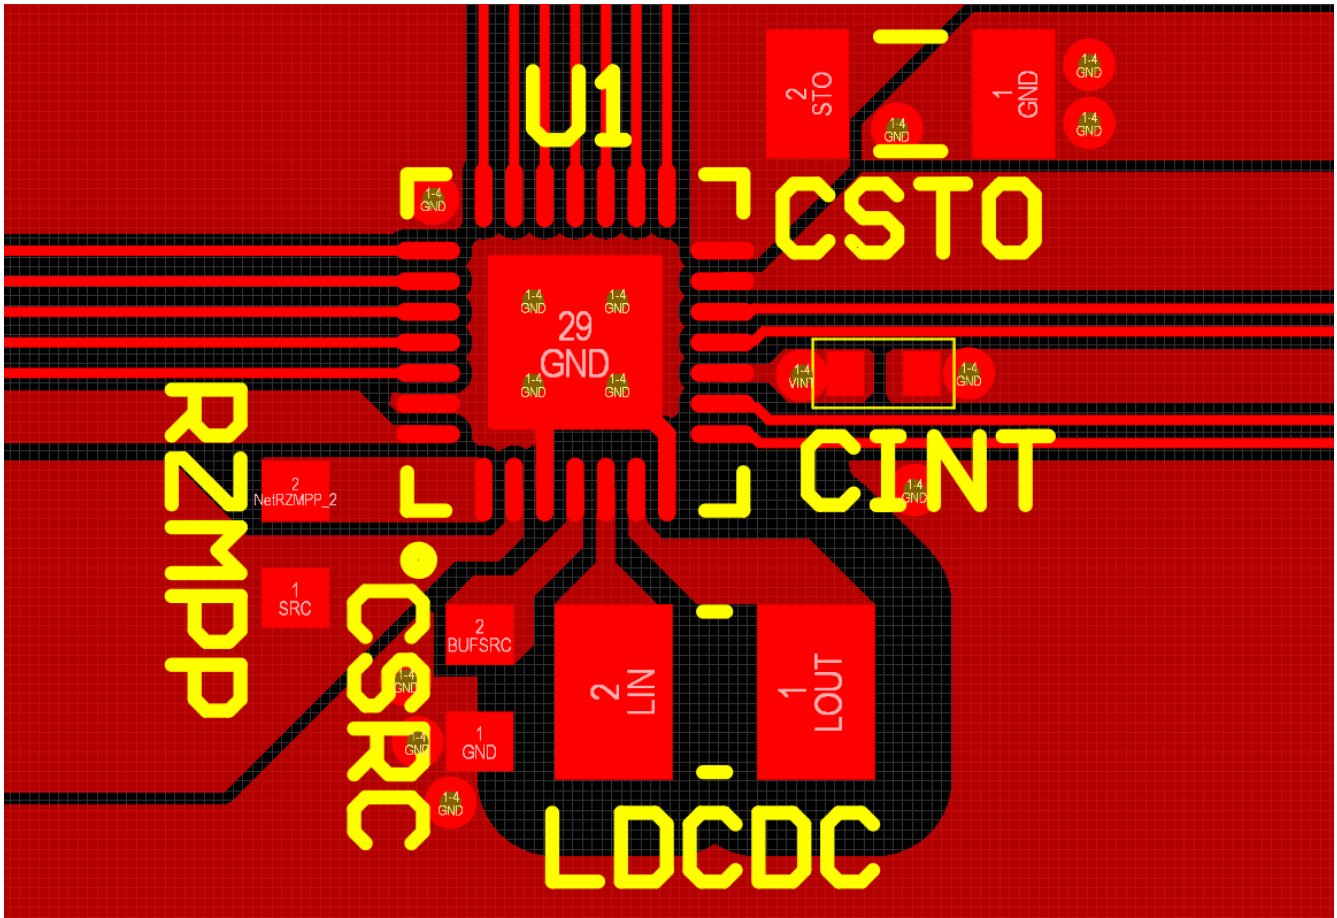

Figure 16: Layout Example for the AEM10300 and its Passive Components
- The switching nodes (**LIN** and **LOUT**) must be kept as short as possible, with minimal track resistance and minimal track capacitance. Low resistance is obtained by keeping track length as short as possible and track width as large as possible between **L_{DCDC}** and the AEM10300 pins. Minimal capacitance is obtained by keeping distance between **LIN/LOUT** and other signals. We recommend removing the ground plane, the power plane and the bottom layer ground pour under **L_{DCDC}** footprint, as well as adding distance between **LIN/LOUT** and the top ground pour, as shown on Figure 16.